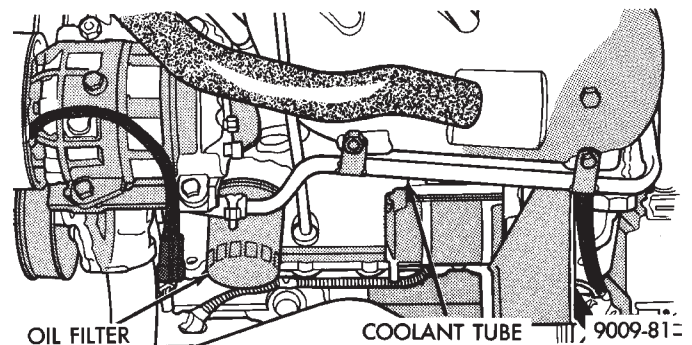

Fig. 14 Oil Filter
(1) Using Tool C-4065, unscrew filter from base and discard (Fig. 14).